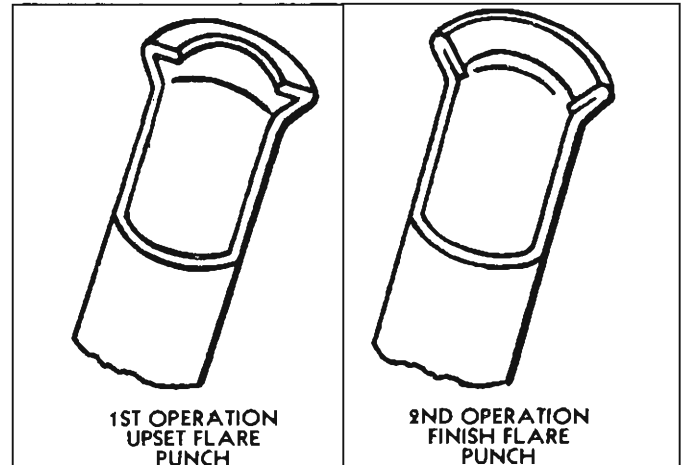

Fig. 11—Flaring Operation—First and Second Flare
7. To complete the flare, insert the finish flare punch and the ram into the tool body. Tap the ram until a good seat is formed (fig. 11).